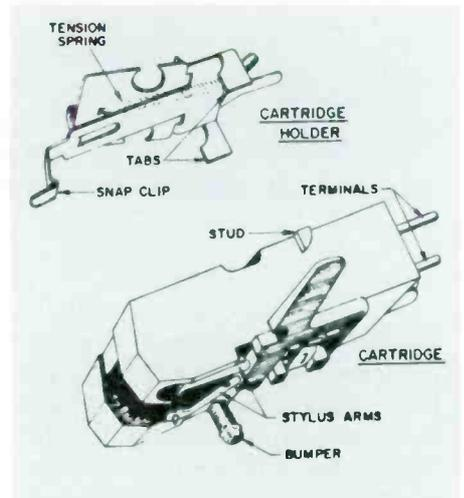

Fig. 1—Cartridge and cartridge holder for Westinghouse 670V040D01 record changer used in CP466 (V2524-4) portable phonograph.
5. One of the stylus arms should rest in the fork of the couplet (See Fig. 1).
1. Pull the snap clip on the cartridge holder gently away from the cartridge and then pull the cartridge from the holder (see Fig. 1).
3. Slide the two studs (Fig. 1) on the sides of the cartridge into the notches in the holes on the cartridge holder. Push the cartridge up until the snap clip locks in place.